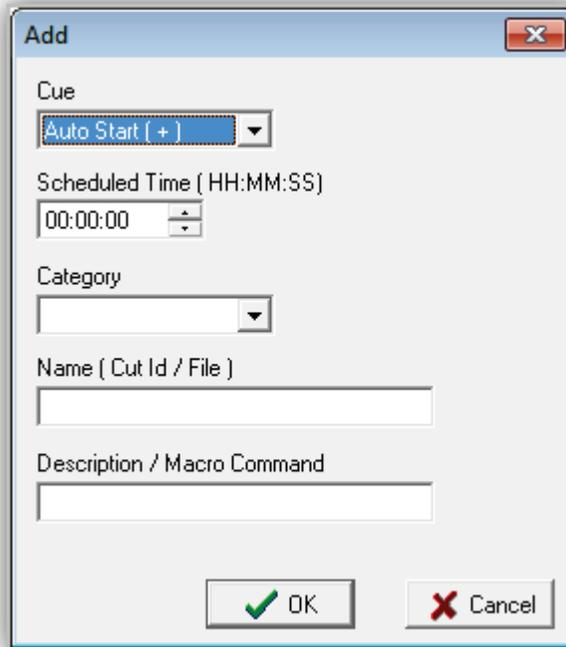

Figure 4-42. Add Dialog Box
3. Complete the fields in the dialog box (see Figure 4-42).